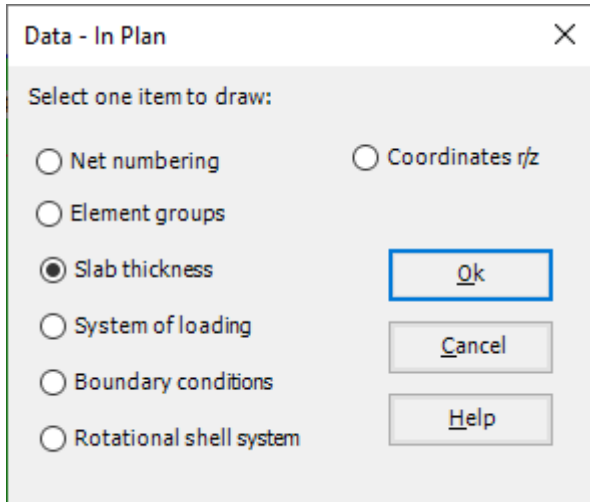

Figure 11.32 "Data – In Plan" option box
- Choose "Slab thickness" from "In Plan" command in "Data" menu. The following option box in Figure 11.32 appears